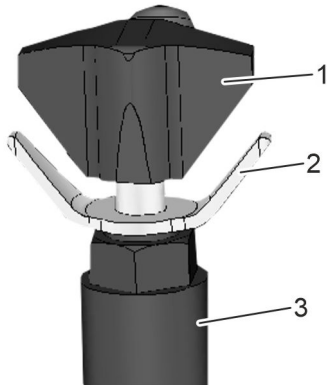

Fig. 21: Pressure adjustment valve
2. ➤ Release the adjustment lock (Fig. 21/2). To do so, turn it anti-clockwise.
3. ➤ Turn the knob (Fig. 21/1) anti-clockwise. Open completely.